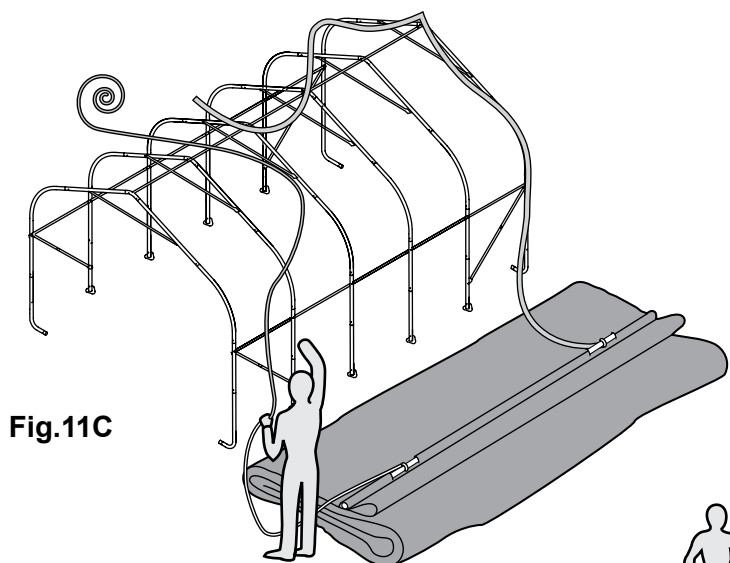

Fig.11C
C. Tie the rope on each of the exposed pipes and throw the other end of the rope over the frame. Fig. 11C.